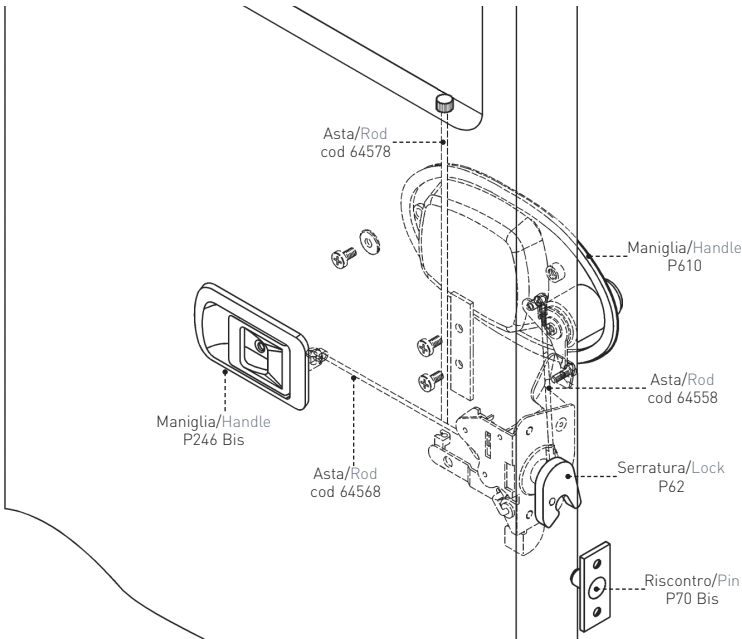

fig. 2
- 4 - Apply the connecting rods, respectively the cod. 64568 to the lock P62 and the handle P246 Bis, while the cod. 64558 to the lock P62 and the handle P610 and, finally, the cod. 64578 to the lock P62 [see **fig. 2**].